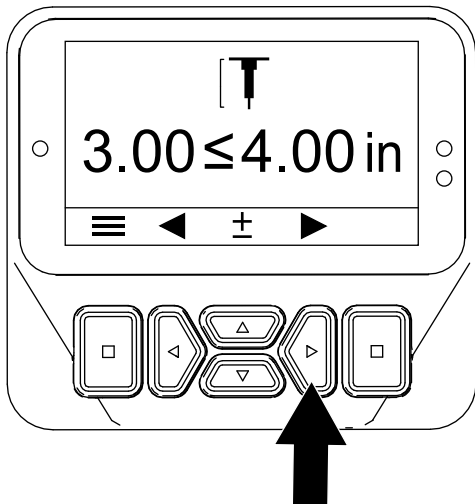

Figure 47
4. Press the right button to display the Setting the Hole Depth screen (Figure 47).